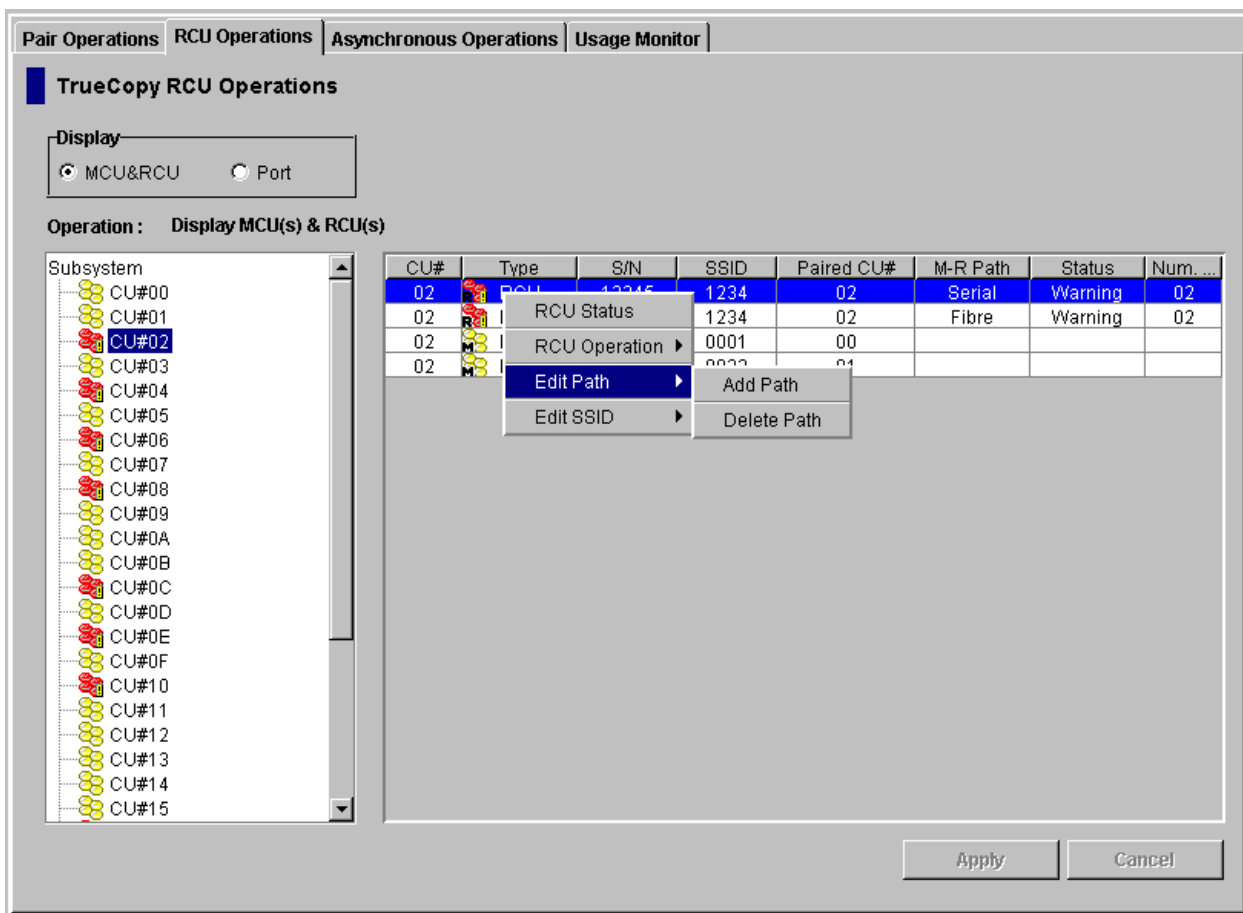

Figure 4.17 Opening the Add Path Panel
3. Right-click on the RCU, select **Edit Path**, and then select **Add Path** to open the Add Path panel (see Figure 4.17).